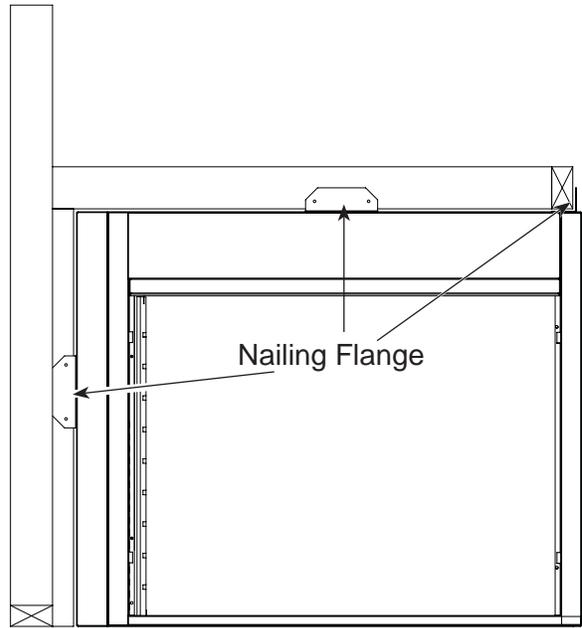

Figure 15 - Location of Nailing Flanges and Floor Screws
4. Attach nailing flanges to studs. *See Figure 15.*